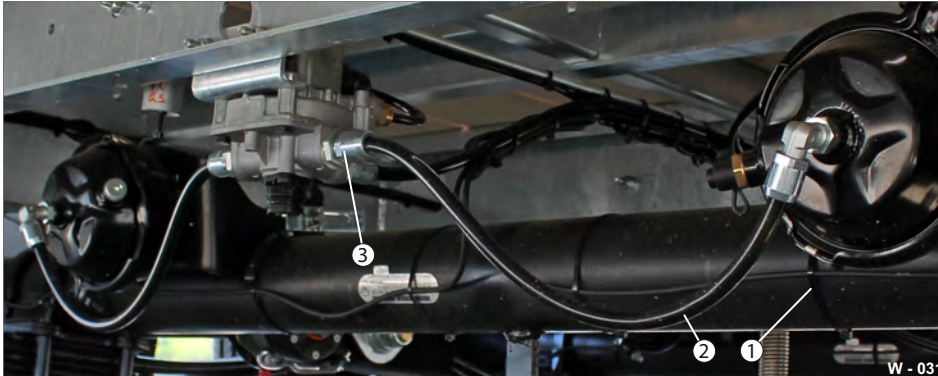

Fig. 31 Electrical and pneumatic connections/lines
- ▶ Replace damaged/ripped lines (Fig. 31/2) and cable clips (Fig. 31/1).
- ▶ Replace defective screw fittings (Fig. 31/3).